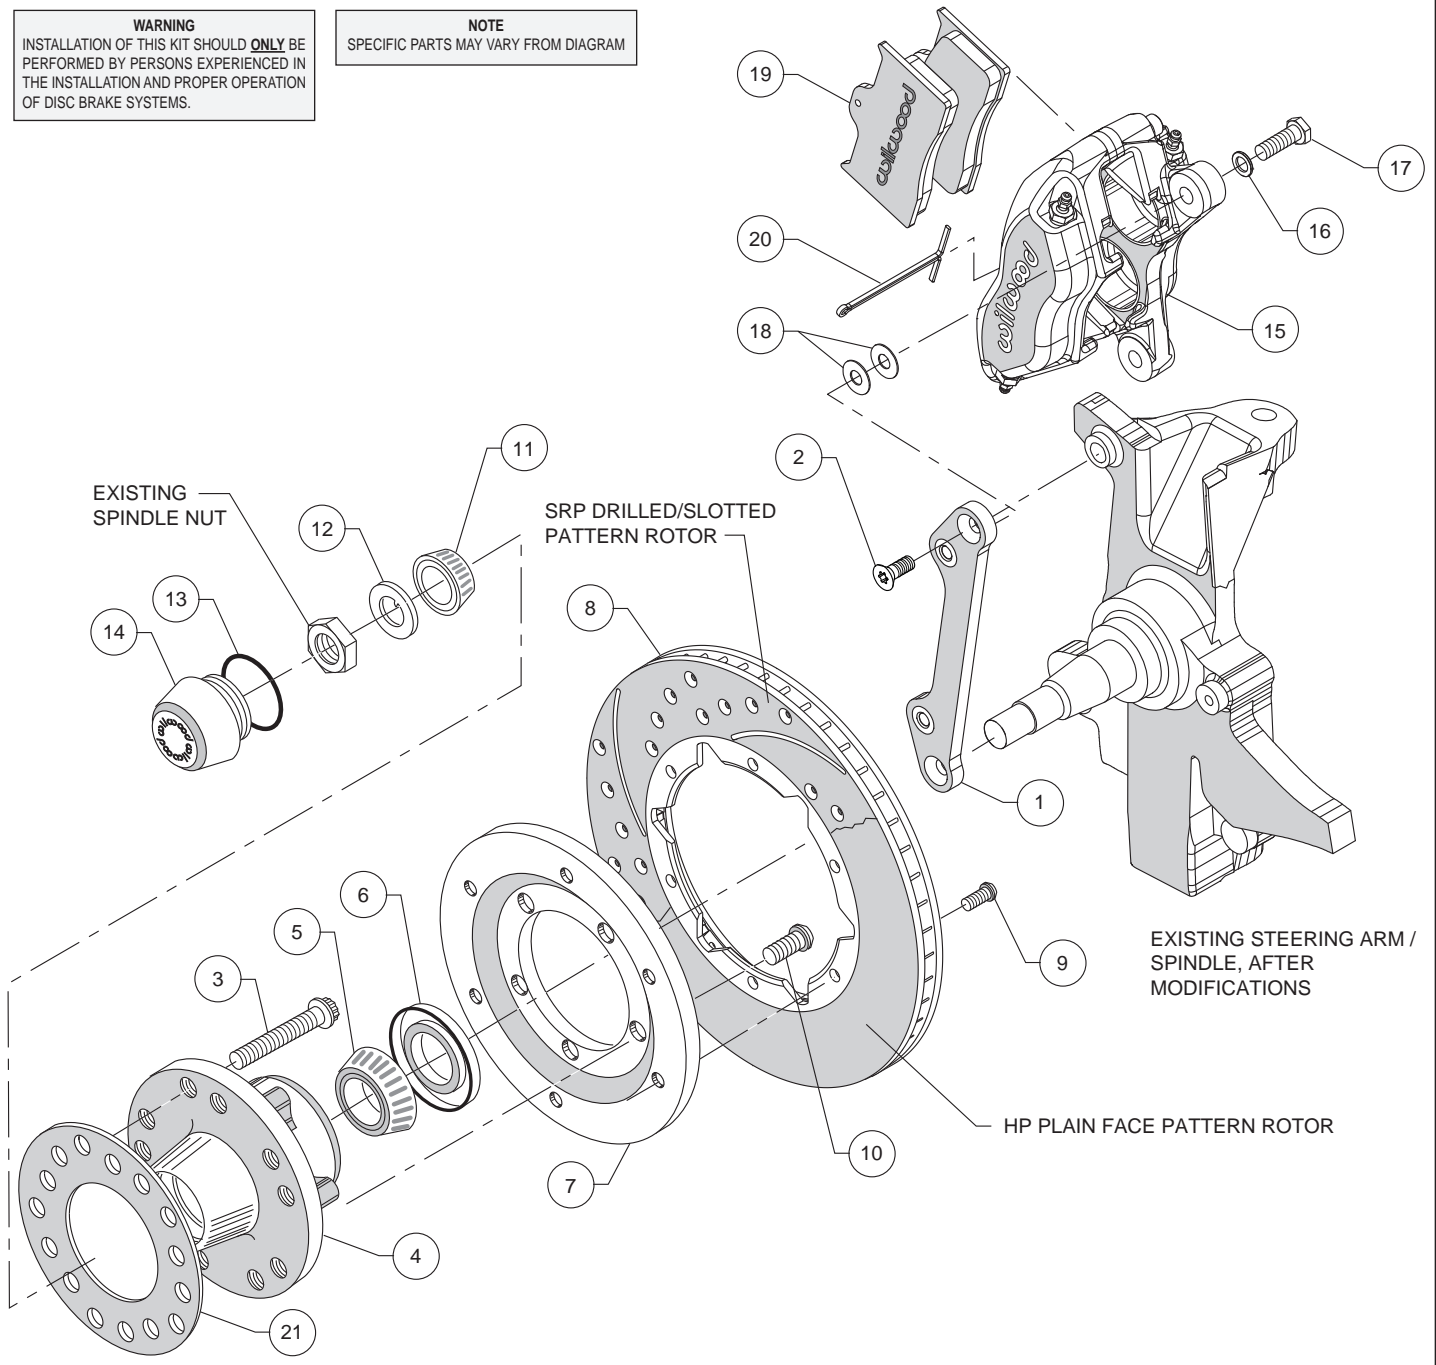
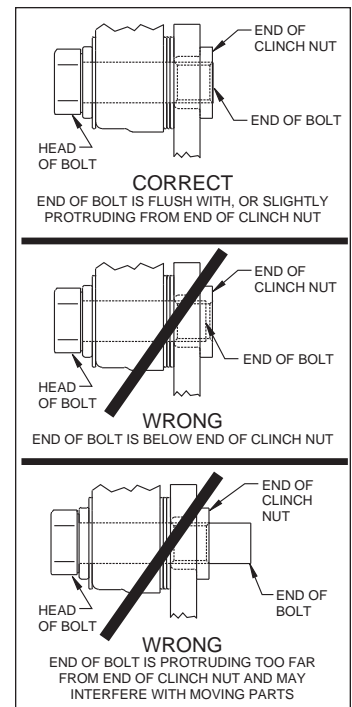

Figure 2. Typical Installation Configuration
Figure 4. Clinch Nut Engagement Diagram
Assembly Instructions (numbers in parenthesis refer to the parts list above, and Figure 2): **CAUTION:** All mounting bolts must fully engage clinch nuts. Be sure to check that all bolts are either flush or protruding through flanged side of clinch nut after shimming, Figure 4.
- Align caliper mounting bracket (1) with the corresponding holes, to the face of the spindle. Attach using bolts (2) as shown in Figure 2 and Photo 1. Temporarily tighten the mounting bolts. Ensure that the flanged heads of the clinch nuts in the bracket are facing outboard, Photo 1. **NOTE:** The bracket must fit squarely against the mounting points on the spindle. Inspect for interference from casting irregularities, machining ridges, burrs, etc. Remove bolts one at a time, apply red *Loctite*® 271 to threads and torque to 40 ft-lb.
- Install wheel studs (3) into the hub (4), Photo 2. Torque to 77 ft-lb. **NOTE:** There are two five lug patterns in the hub (5 x 4.50 and 5 x 4.75). Ensure the correct hub stud pattern is being used to fit the wheel application.
- Pack the large inner bearing cone (5) with high temperature disc brake bearing grease (available from your local auto parts store) -gure 2 and Photo 4. Attach the rotor to the adapter using bolts (9). Using an alternating sequence, apply red *Loctite*® 271 to the threads, and torque to 25 ft-lb.
- Mount the adapter/rotor assembly (7/8) to the hub (4) using bolts (10), as shown in Figure 2 and Photo 5. Using an alternating sequence, apply red *Loctite*® 271 to the threads, and torque to 55 ft-lb.
- NOTE:** Please reference the caution statement at the beginning of the assembly instructions. Mount the caliper (15) onto the caliper mounting bracket (1) using bolts (17) and washers (16), as shown in Figure 2. Initially place two .035" thick shims (18) on each bolt between the caliper and the bracket, Photo 8. Temporarily tighten the mounting bolts and view the rotor (8) through the top opening of the caliper. The rotor should be centered in the caliper, Photo 9. If not, adjust by adding or subtracting shims between the bracket and the caliper. Always use the same amount of shims on each of the two mounting bolts. **NOTE:** The end of each bolt must be flush with or slightly protruding from the head of the clinch nut, as shown in Figure 4. If necessary place spare shims between washer (16) and caliper mounting ear to achieve the proper clinch nut engagement. Once the caliper alignment and clinch nut engagement are correct, remove the bolts one at a time, apply red *Loctite*® 271 to bolt threads, and torque to 40 ft-lb.